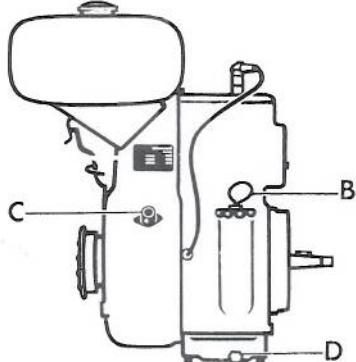

Fig. 1
Fill the fuel tank with ordinary petrol by means of a sieve funnel. Check the engine oil level with the dip stick (B, fig. 1). The oil quantity should be maintained at a level between the max. and min. marks shown on the dip stick. Check the air filter; if necessary, clean. If a oil bath air filter is fitted top up oil to correct mark indicated on filter bowl.
- When running with petrol: Put the engine into idling position and press the stop button (C, fig. 1). Close the fuel cock.
- When running with paraffin: Switch the fuel cock over to "petrol" position and let the engine run for 2-3 minutes. Then put the engine into idling position and press the stop button (C, fig. 1). Close the fuel cock.